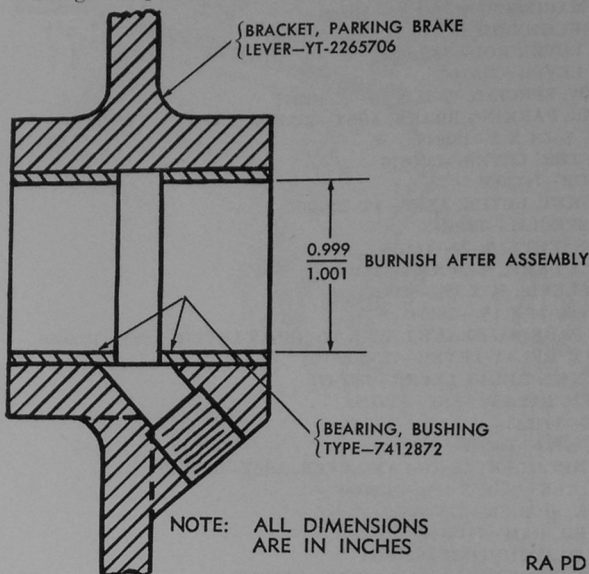

Figure 174. Sectional view of lever bracket and bushings.
a. *Lever Bracket Bushing Replacement* (fig. 174). Press old bushings out of bracket. Press new bushing into each end of bracket until outer end of each bushing is flush with face of bracket. After pressing bushings into place burnish to diameter shown in figure 174.